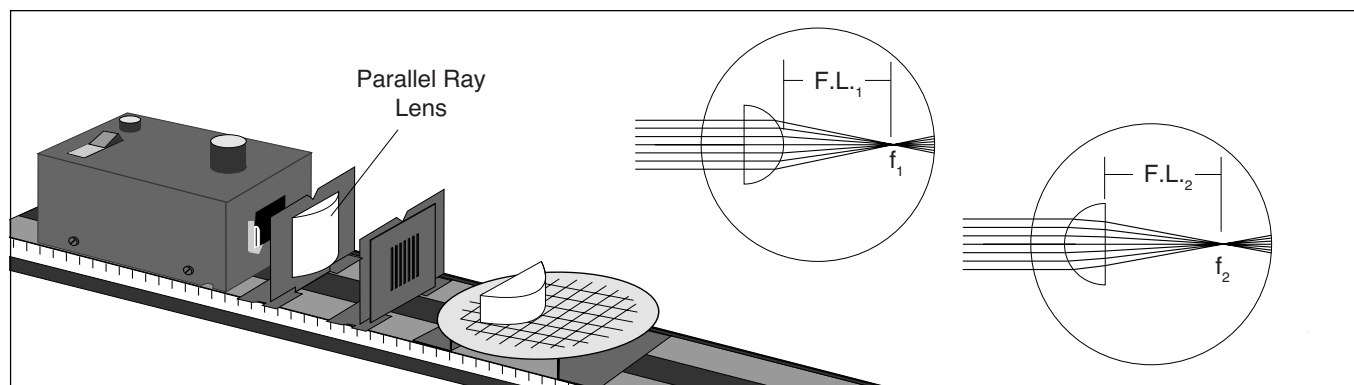

Figure 13.1 Equipment Setup
Set up the equipment as shown in Figure 13.1. Position the Cylindrical Lens on the Ray Table so the rays are all incident on the flat surface of the lens.
- ① Measure $F.L._1$ and $F.L._2$. (see Figure 13.1).
Cylindrical aberration is the distortion of the image caused by imperfect focusing of the refracted rays. Place a blank sheet of paper over the Ray Table. Arrange the equipment as in Figure 13.1 so all the light rays are refracted by the Cylindrical Lens. Use the Slit Mask to block all but two rays. Do this for several pairs of rays.